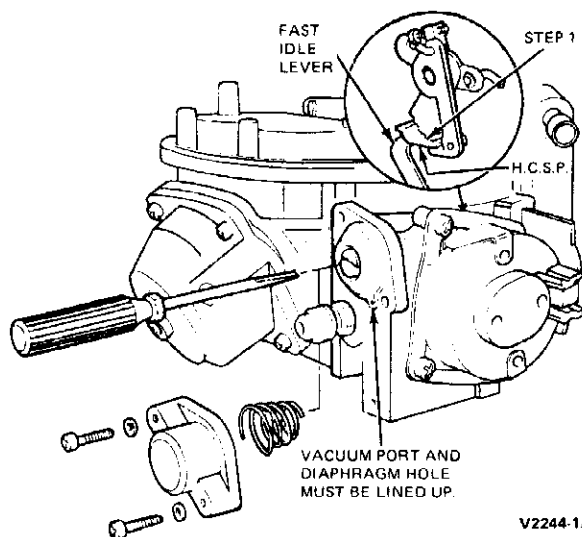

FIG. 25 High Cam Speed Positioner (H.C.S.P.) Adjustment
1. Place the high cam speed positioner (H.C.S.P.) in the corner of the specified cam step (counting the highest step as the first). See Fig. 25.